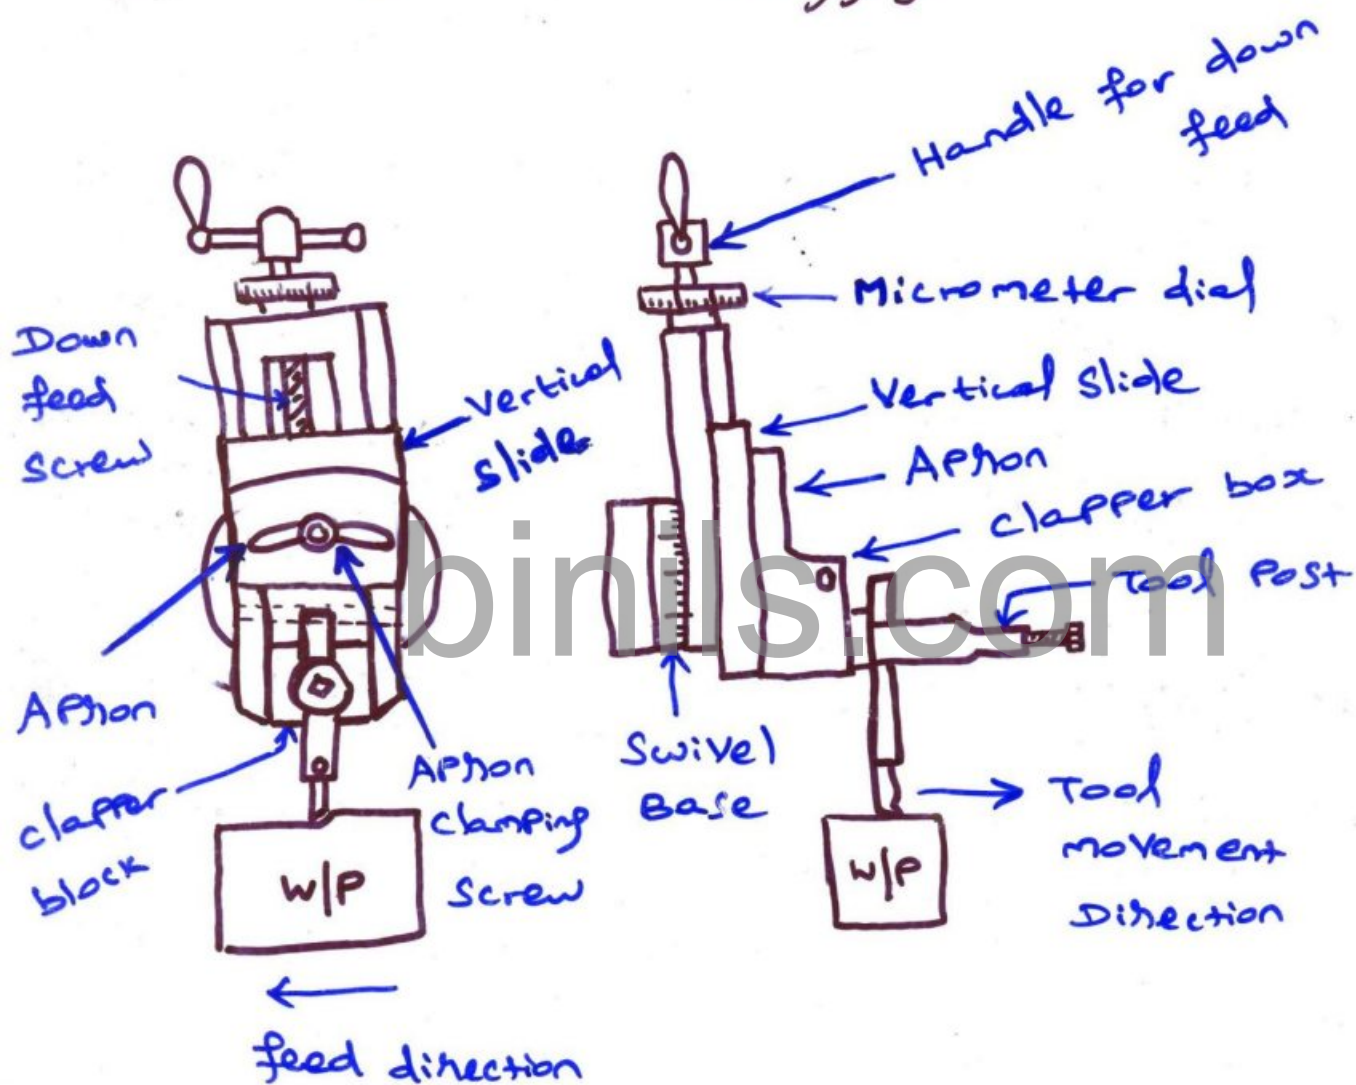

Fig 3.2 - Tool Head of a Shaper
⑦ Tool head:- [Refer figure 3.2 in P.no:15]
① The tool head of a shaper holds the tool rigidly, provides the vertical and angular feed movement of the tool and allows the tool to have an automatic relief during its return stroke.
② The vertical slide of the tool head has a swivel base which is held on a circular seat on the ram. The swivel base is graduated in degrees, so that the vertical slide may be set